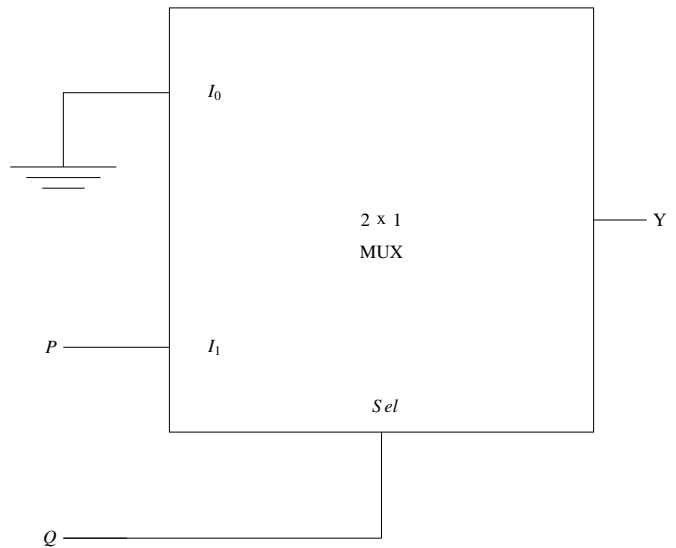

Fig. 4.21
39. In the circuit shown below in Fig. 4.21, P and Q are the inputs. The logical function realized by the circuit shown below in Fig. 4.21 is